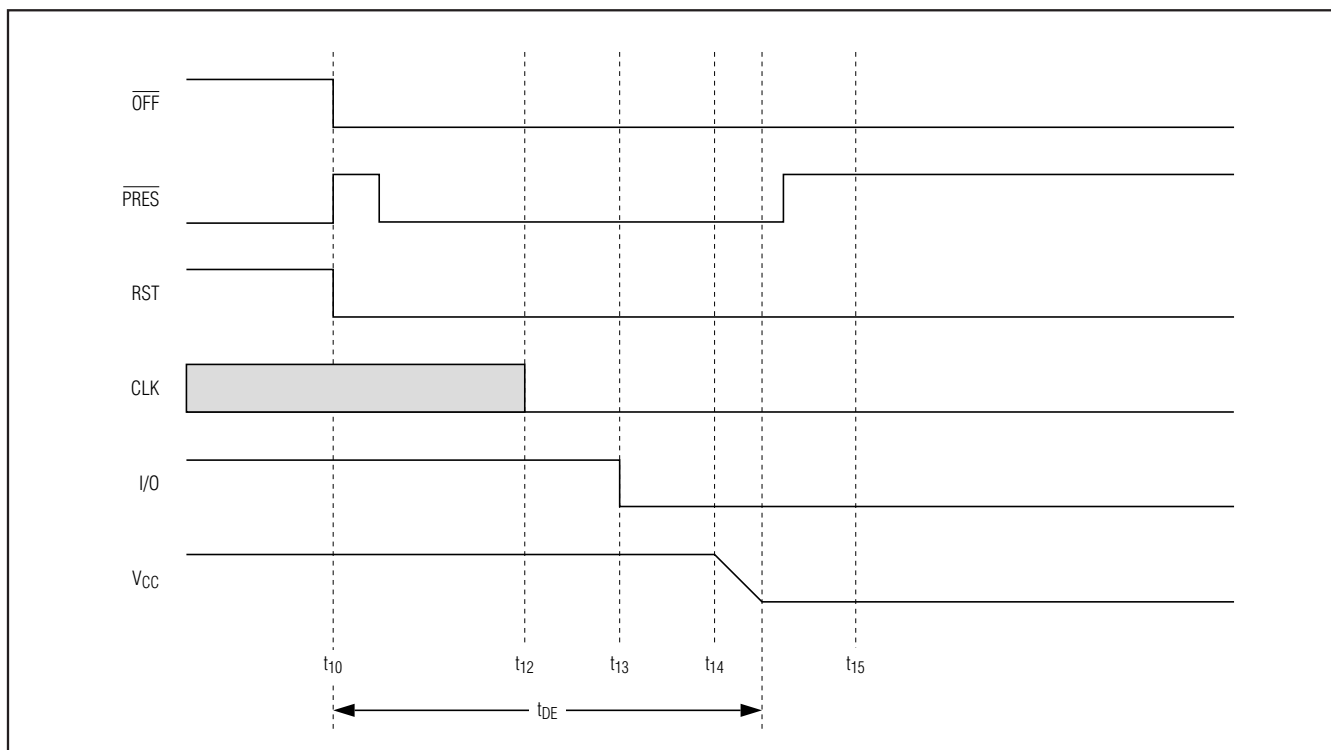

Figure 7. Emergency Deactivation Sequence (Card Extraction)
The DS8023 crystal oscillator runs when the device is powered up. If the crystal oscillator is used or the clock pulse on pin XTAL1 is permanent, the clock pulse is applied to the card at time t_4 (see Figures 7 and 8). If the signal applied to XTAL1 is controlled by the host microcontroller, the clock pulse is applied to the card when it is sent by the system microcontroller (after completion of the activation sequence).
- **Within a Card Session ($\overline{\text{CMDVCC}}$ Low).** Output $\overline{\text{OFF}}$ goes low when a fault condition is detected, and an emergency deactivation is performed automatically (Figure 7). When the system controller resets $\overline{\text{CMDVCC}}$ to high, it may sense the $\overline{\text{OFF}}$ level again after completing the deactivation sequence. This distinguishes between a card extraction and a hardware problem ($\overline{\text{OFF}}$ goes high again if a card is present).